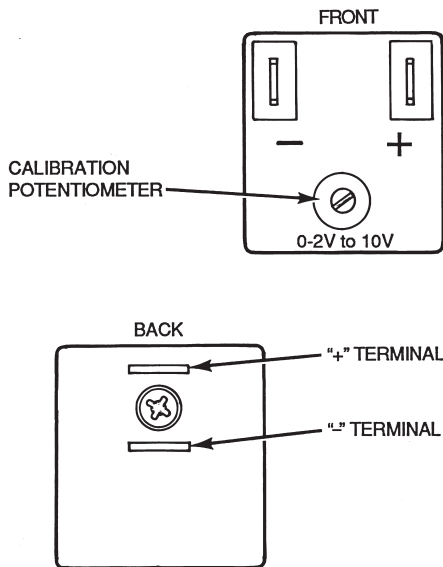

Fig. 17 — Adapter Connections
- On the back of the adapter, there are two slots that accept 1/4-in. male quick-connect terminals. See Fig. 17. Using field-supplied wire, connect the (+) terminal on the back of the adapter to P₁ on the logic module. Connect the (-) terminal on the back of the adapter to terminal P on the logic module.
The adapter is factory-set to begin modulating the actuator open from the fully closed position at 2.4 vdc and closed from the fully open position at 9.8 vdc, with the calibration potentiometer (Fig. 17) set at the midrange position. The potentiometer can be used to adjust the minimum damper position. Turning the potentiometer counterclockwise increases the damper's minimum position setting; turning the potentiometer clockwise decreases the minimum position setting.